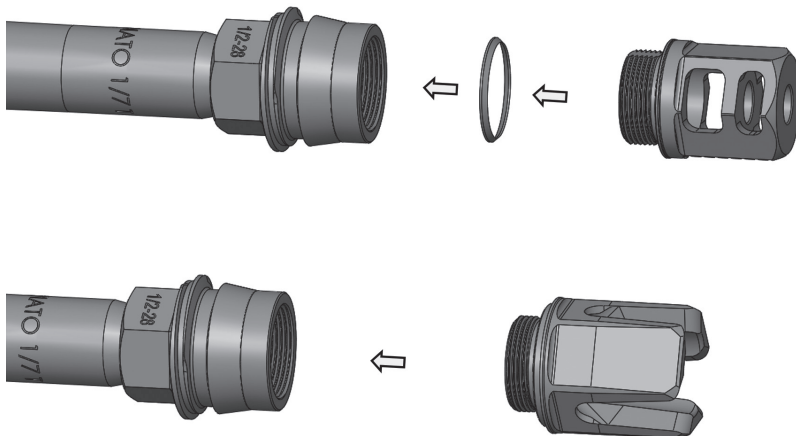

Fig. 3.2b
d. When installing the muzzle brake use the provided crush washer with the taper of the crush washer facing forward. Align the ports of the muzzle brake to the left and right (See Fig. 3.2b) When installing the flash hider do not use the crush washer.